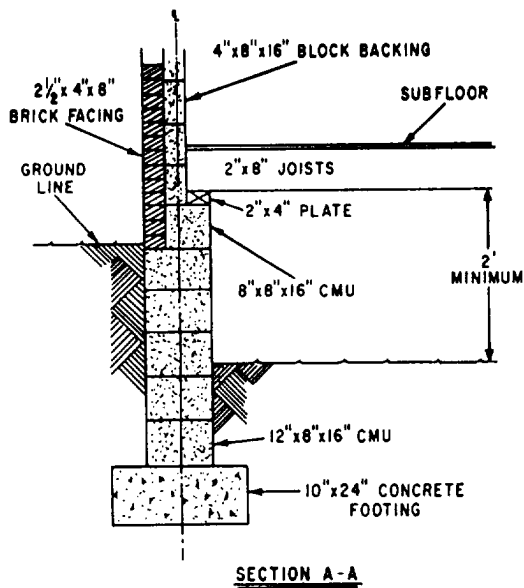

Figure 2-16.—A typical section of a masonry building.
**Typical** sections represent the average condition throughout a structure and are used when construction features are repeated many times. Figure 2-16 shows typical wall section A-A of the foundation plan in
The foundation plan shown in figure 2-10 specifies that the main foundation of this structure will consist of a 22- by 28-foot concrete block rectangle. Figure 2-16, which is section A-A of the foundation plan, shows that the front and rear portions of the foundation (28-foot measurements) are made of 12-by-8-by-16-inch CMUs centered on a 10-by-24-inch concrete footing to an unspecified height. These are followed by 8-inch CMUs, which form a 4-inch ledger for floor joist support on top of the 12-inch units. In this arrangement, the 8-inch CMUs serve to form a 4-inch support for the brick. The main wall is then laid with standard 2 1/2-by-4-by-8-inch face brick backed by 4-by-8-by-16-inch CMUs.